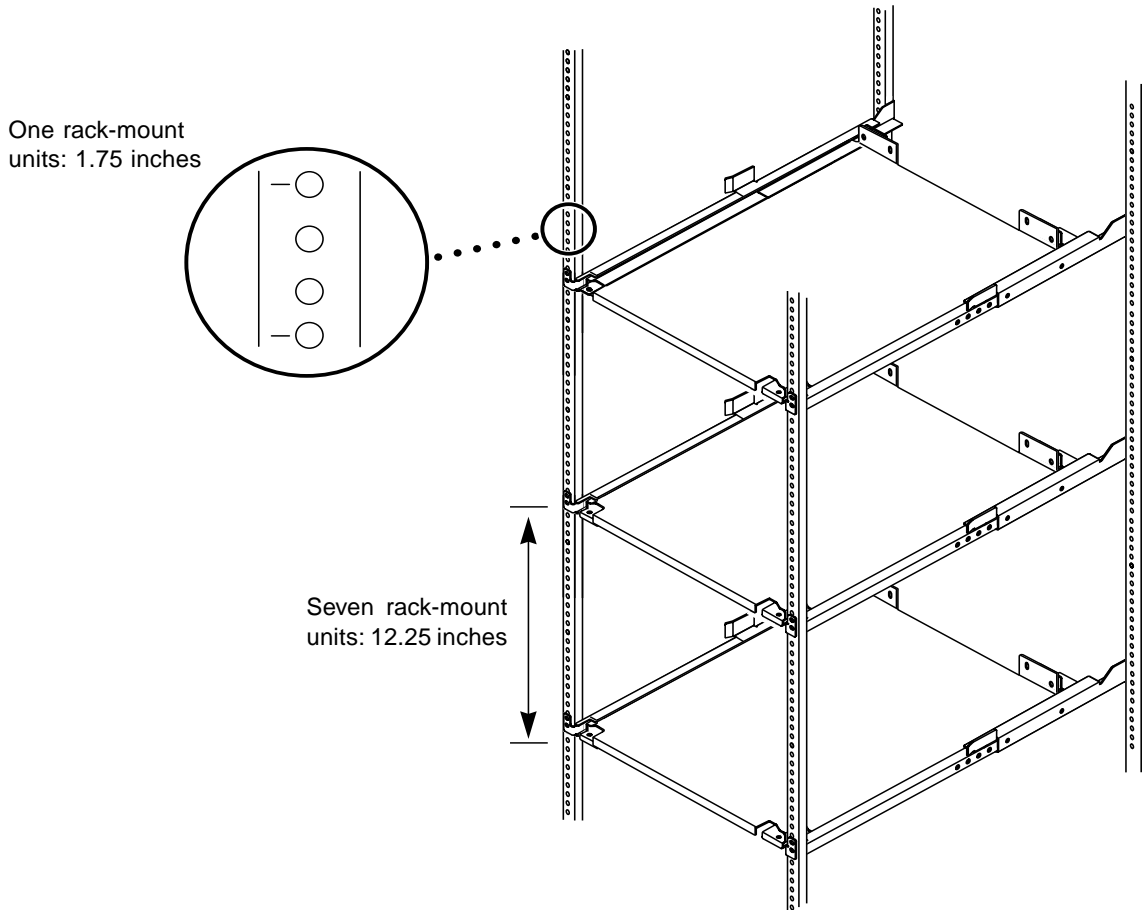

FIGURE 3 Mounting Rack
4. Clear a working space in the rack (FIGURE 3).